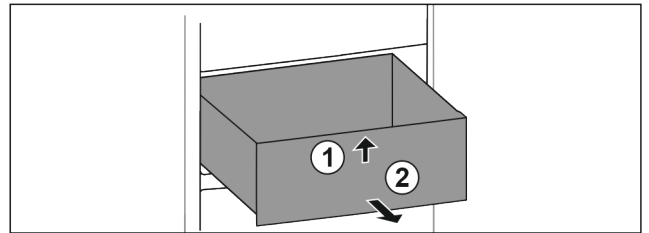

Fig. 84
- ▶ Lift up drawer at the front. Fig. 84 (1)
- ▶ Remove drawer to the front. Fig. 84 (2)